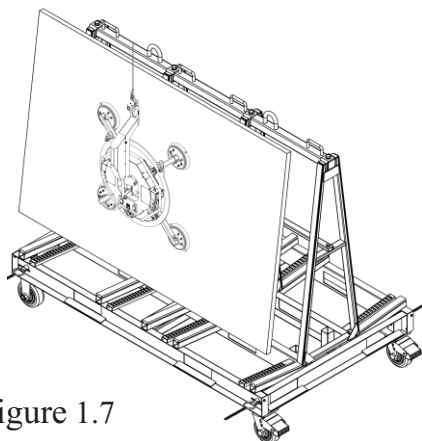
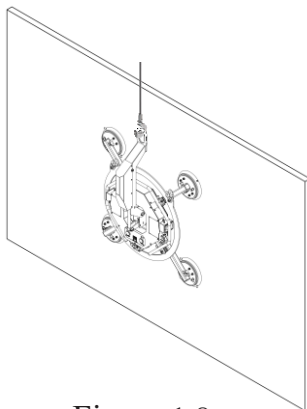

Figure 1.7
Figure 1.8
**Step 5:** Lift and move the glass sheet (Figure 1.7 and Figure 1.8).